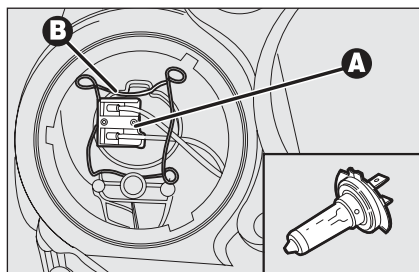

fig. 26
- ☐ disconnect the electric connector **A-fig. 26**;
- ☐ fit the new bulb and refit bulb holder catch **B-fig. 26**;